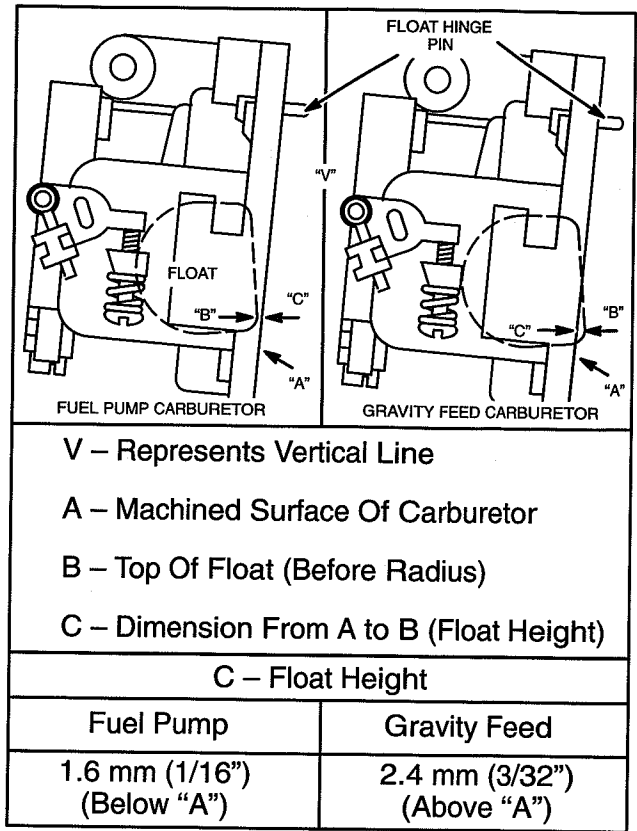

Fig. 95 – Check Float Height
2. While holding the float hinge pin down, turn the carburetor to a position **past** vertical as shown in Fig. 95.
5. See Fig. 95 for dimensions.